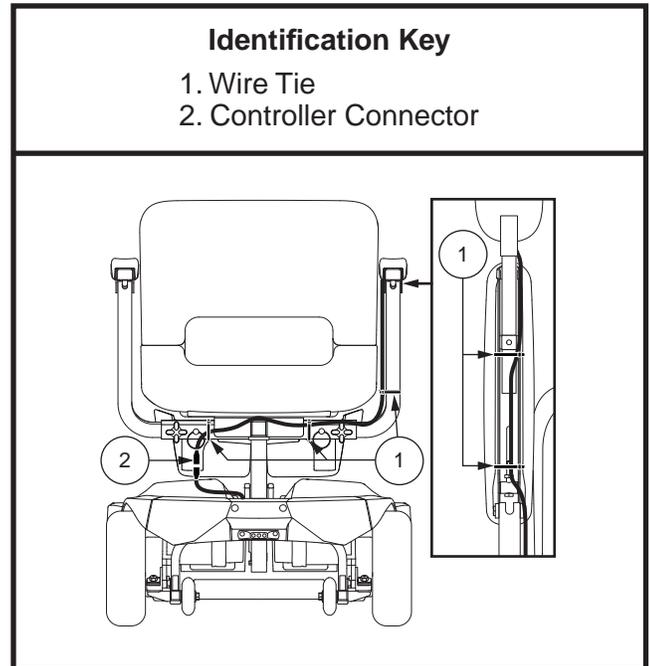

Figure 7. Seat Installation (Go Chair shown)
2. Set the seat onto the seat post. **See figure 7.**
7. Secure the controller harness to the armrest with wire ties. **See figure 7.**
3. Disconnect the controller connector from the power base. **See figure 7.**